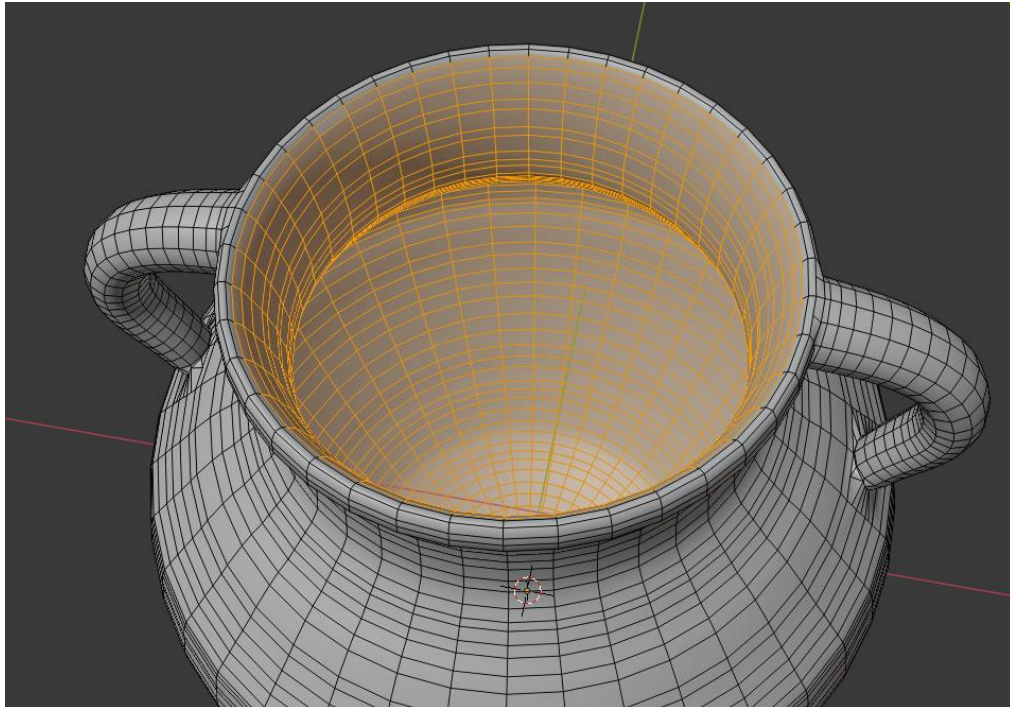

Figure 31
- 4) To quickly select only the inner faces for the calculation: ALT+LMB (edge loop) on one edge of the inner part of the 3D model, just under the rim; Hit Spacebar and search for the **Select Loop Inner-Region**. Click and you the interior of the vessel will be selected (**Fig. 31**).